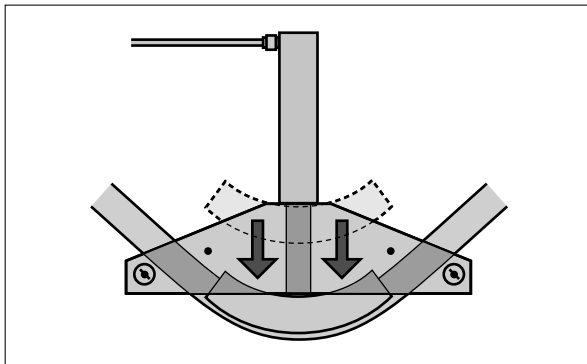

Figura 2
5.0 CURVATURA DEL TUBO (VER LAS FIGURA 2 Y 3)